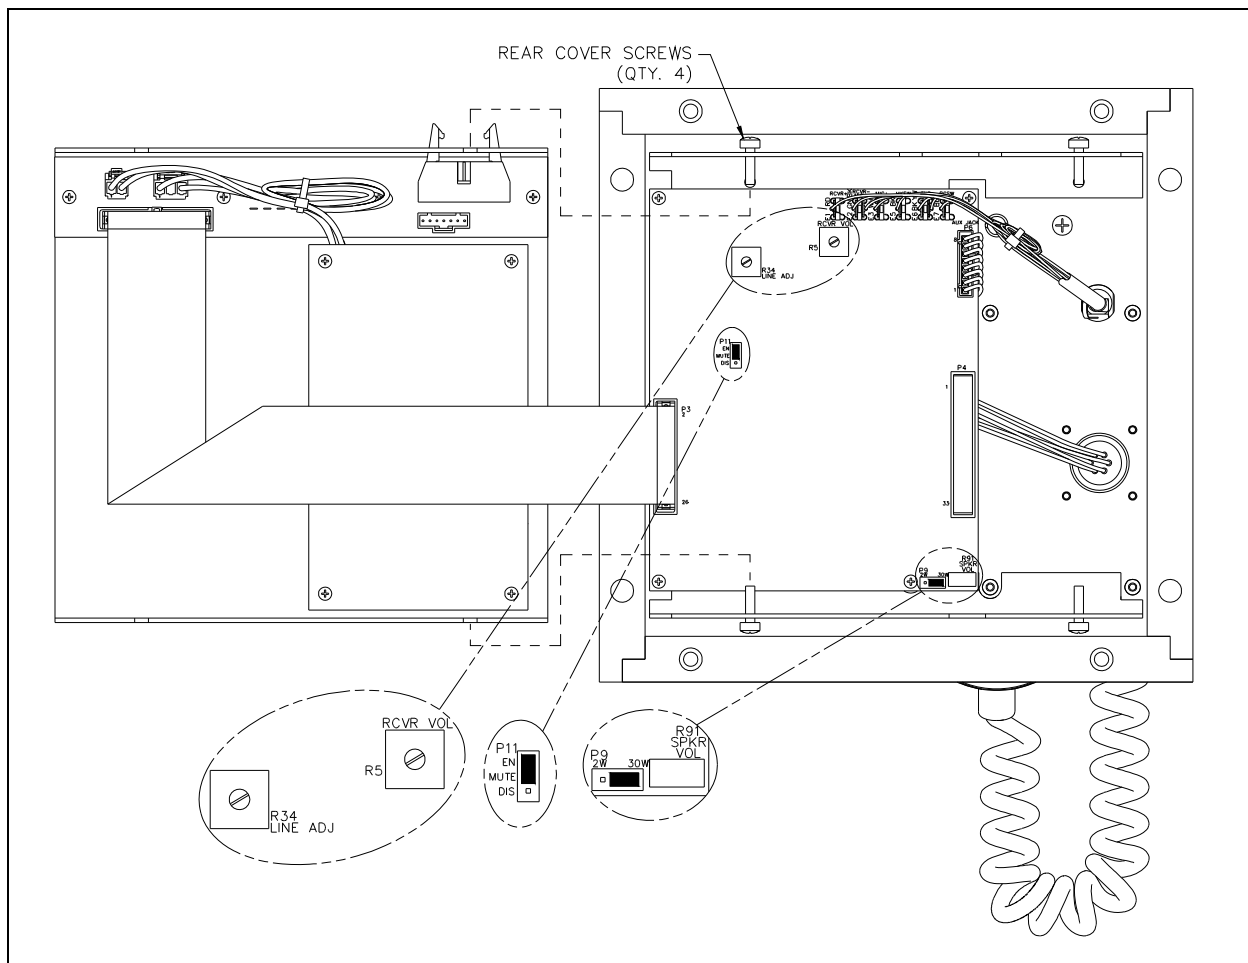

Figure 6. View of Open AC-Powered ICS Page/Party® Amplifier
1. Place the amplifier on a flat surface and loosen, but do not remove, the two sets of rear cover screws located on the top and bottom L-shaped slots. See Figure 6.
Refer to Figure 6 for locations. It is recommended to use a No. 10440-002 Maintenance Cable (sold separately) to perform the following adjustments.
Refer to Figure 6 for locations.